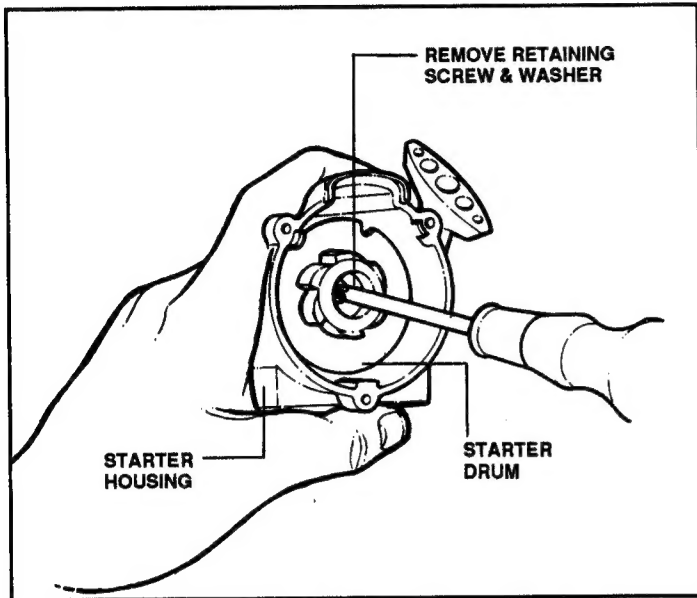

FIGURE 12
7. To remove starter drum, remove the single retaining screw and washer. The spring beneath the starter drum is still under tension. Gently remove the starter drum with a slight twisting motion. See Figure 12.